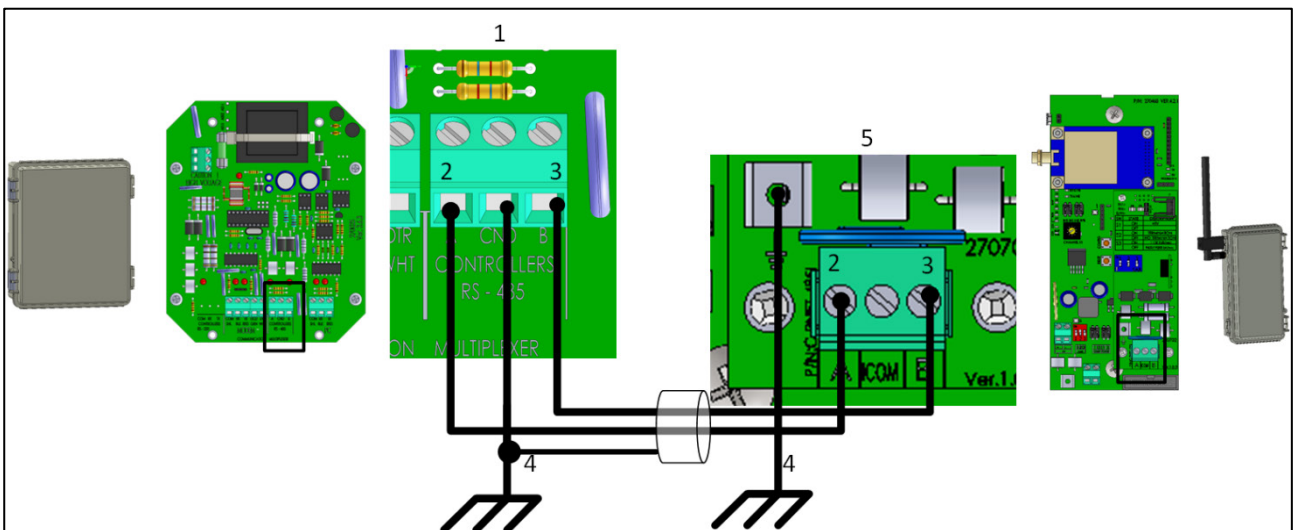

Figure 28: Wiring an Communication Box-485 to a RLINK ONE
- Figure 28: Wiring an Communication Box-485 to a RLINK ONE
Figure 28 key